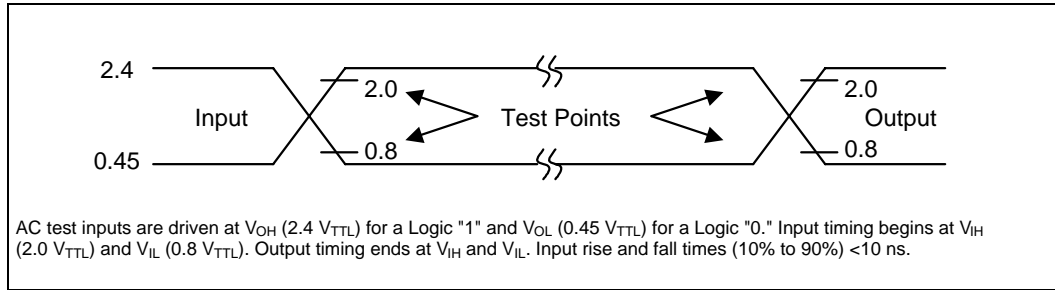

Figure 13. Transient Input/Output Reference Waveform for $V_{CCQ} = 5.0\text{ V} \pm 10\%$ (Standard Testing Configuration)
4. See Figures 13–15, *Transient Input/Output Reference Waveform for V_{CCQ} = 5.0 V ± 10%*, *Transient Input/Output Reference Waveform for V_{CCQ} = 2.7 V–3.6 V*, and *Transient Equivalent Testing Load Circuit* for testing characteristics.